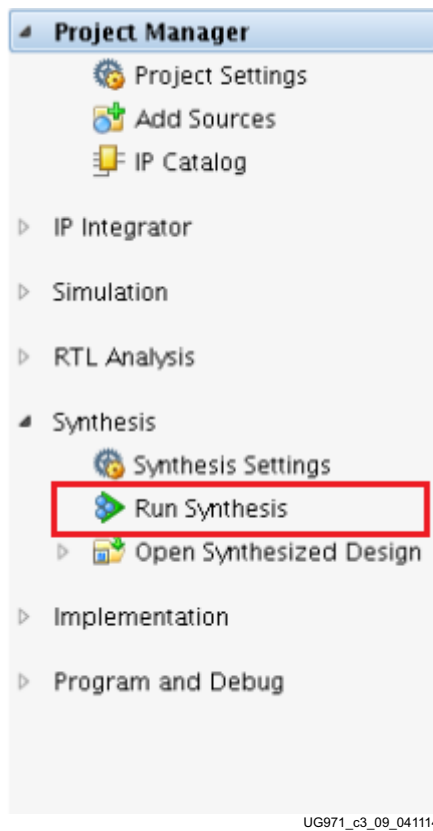

Figure 3-9: Run Synthesis
- Click **Run Synthesis** in the Flow Navigator, which synthesizes the complete design (Figure 3-9).